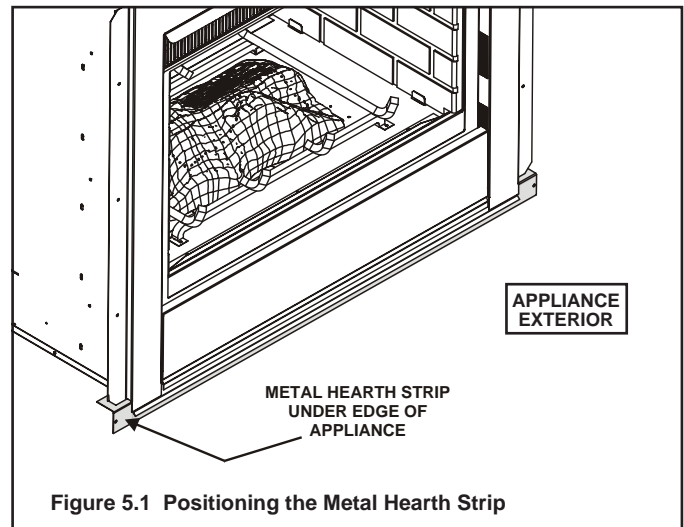

Figure 5.1 Positioning the Metal Hearth Strip
- Place the metal strip onto the structure where the outer edge of the appliance will sit (see Figure 5.1). It should overlap building paper to prevent water infiltration.